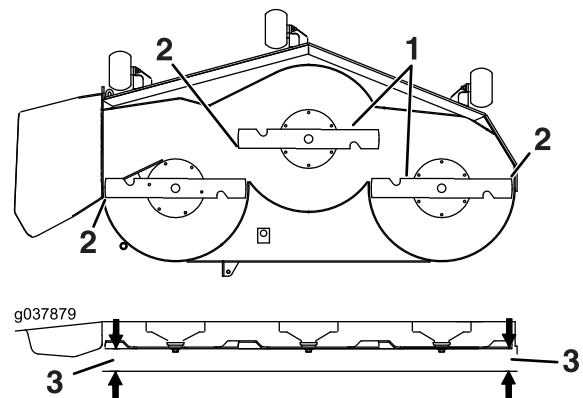

Figure 79
6. Measure between the blade tip and the flat surface (Figure 79). If both measurements are not within 5 mm (3/16 inch), adjust the leveling; continue with this procedure.
14. Carefully rotate the blades side to side (Figure 79).